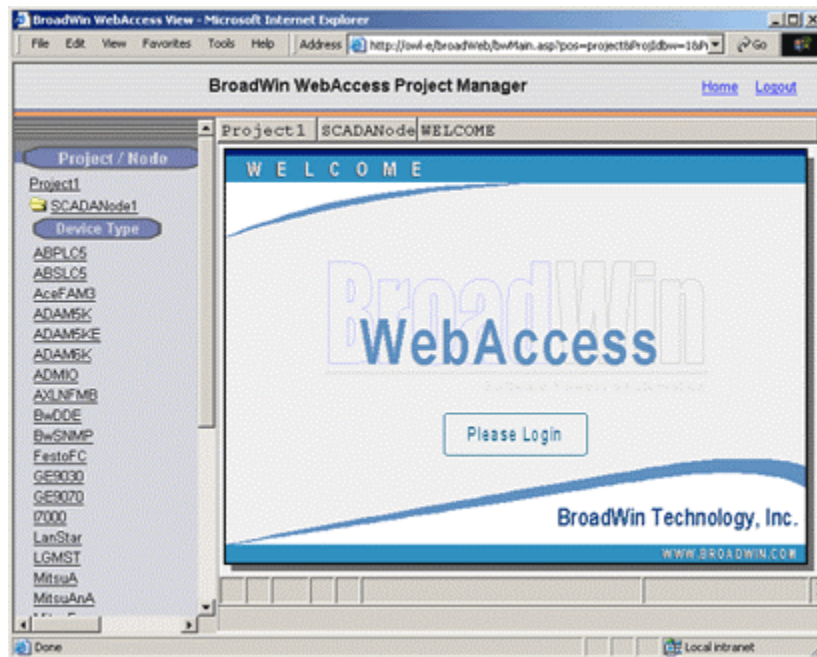

Figure 4-39 - Login page, start VIEW –from Project Manager
10. Welcome to WebAccess Login appears (Figure 4-39) if the Client is installed.